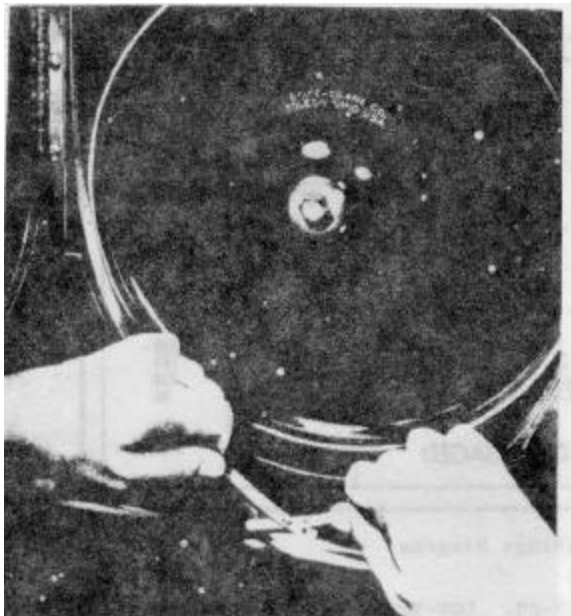

Figure 3-5. Band File Joint
3-26. BLADE INSTALLATION. Shift backgear control lever (figure 3-5, reference 7) on gear box to "down" position to disengage reduction gears, and pull out clutch (4) on main drive shaft. Wheels then rotate easily by hand.
3-55. Place band file (figure 3-4, reference 6) over upper wheel and through table slot, with about a foot of band extending below table. Be sure teeth of file cut down on right-hand side of machine. Turn ends at 90 degrees to each other as shown in figure 3-5, put elongated slot over Tee-head rivet, turn ends so that they are now parallel, and slip round hole over dowel-head rivet.